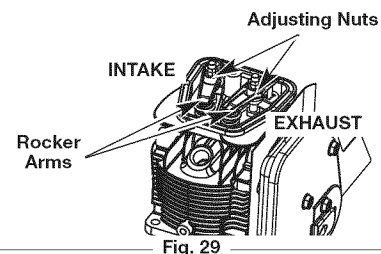

Fig. 29
- The piston is at the top of its travel. Check this by looking into the spark plug hole. (Fig. 29)
The recommended clearance for both intake and exhaust is **.003 - .006 in. (.076 - 0.152 mm)**. Use a standard automotive **.005 in. (0.127 mm)** feeler gauge. The feeler gauge should slide between the rocker arm and valve stem with a slight amount of resistance, without binding. See Figures 29 and 30.
- Turn the adjusting nut using a 5/16 inch (8 mm) wrench or nut driver (Fig. 29).